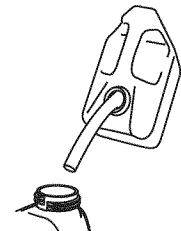

Fig. 6
2. Place the gas container's spout into the fill hole on the fuel tank and fill the tank (Fig. 6).